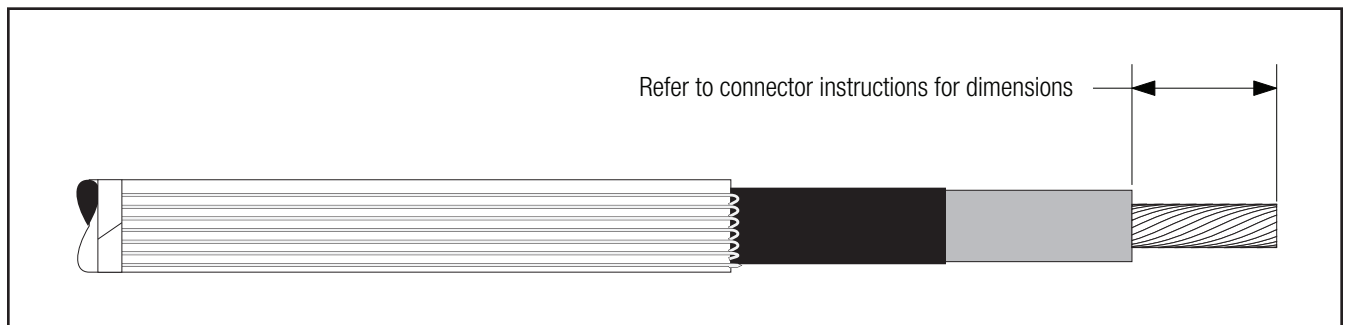

Figure 8
3.1 If using a 3M™ Shearbolt Connector QCI 350-750, refer to the instructions included with the connector for insulation cut-back dimension. Insulation removal length shall not exceed 3 3/4" (95 mm) from conductor end (Figure 8).